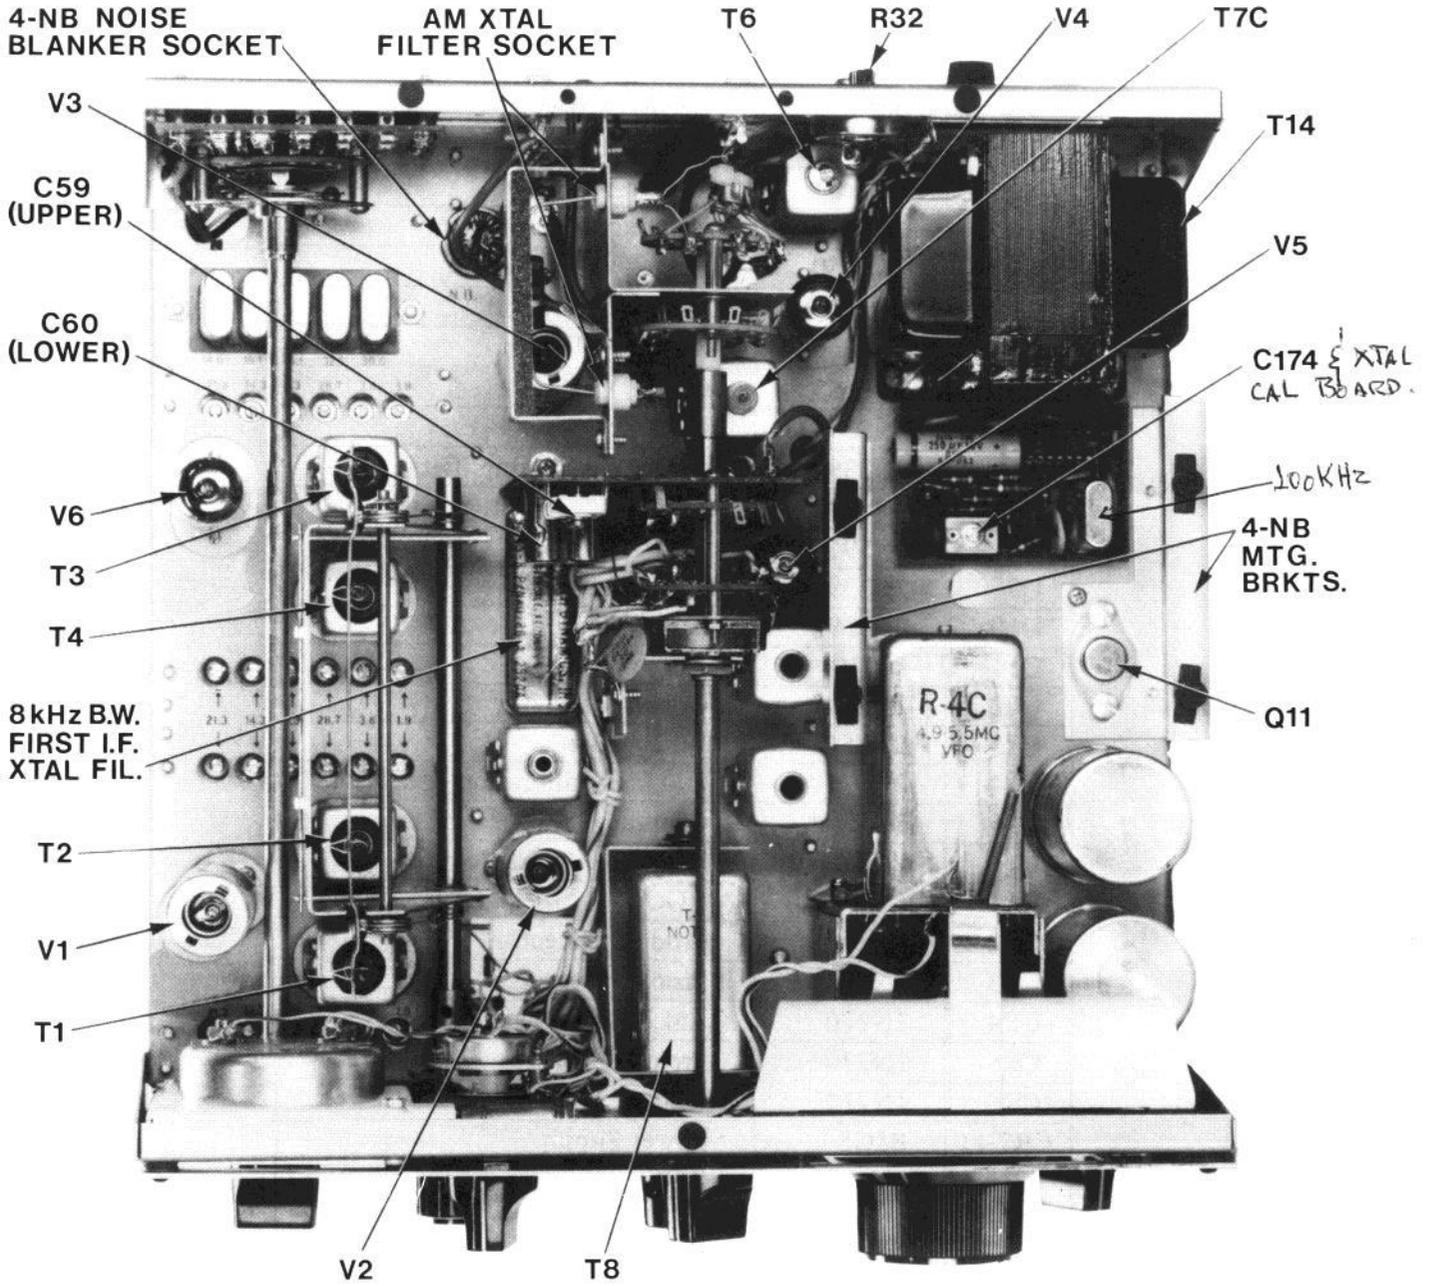

Figure 5-1. Alignment Locations, Top View
- g- Refer to figure 5-1. Adjust the four trimmers marked 28.7 for maximum S Meter reading. If the calibrator signal is insufficient to produce an adequate S Meter indication, remove the 47 Ohm resistor from the antenna input, and connect the signal generator to the antenna input. Set the R-4C FUNCTION switch to EXT. MUTE, adjust the signal generator to 28.7 MHz, and set the generator output level to cause an S Meter indication of approximately S-7. Adjust the four trimmers marked 28.7 for maximum S Meter indication.
- b. Refer to figure 5-1 and determine the location of c174.